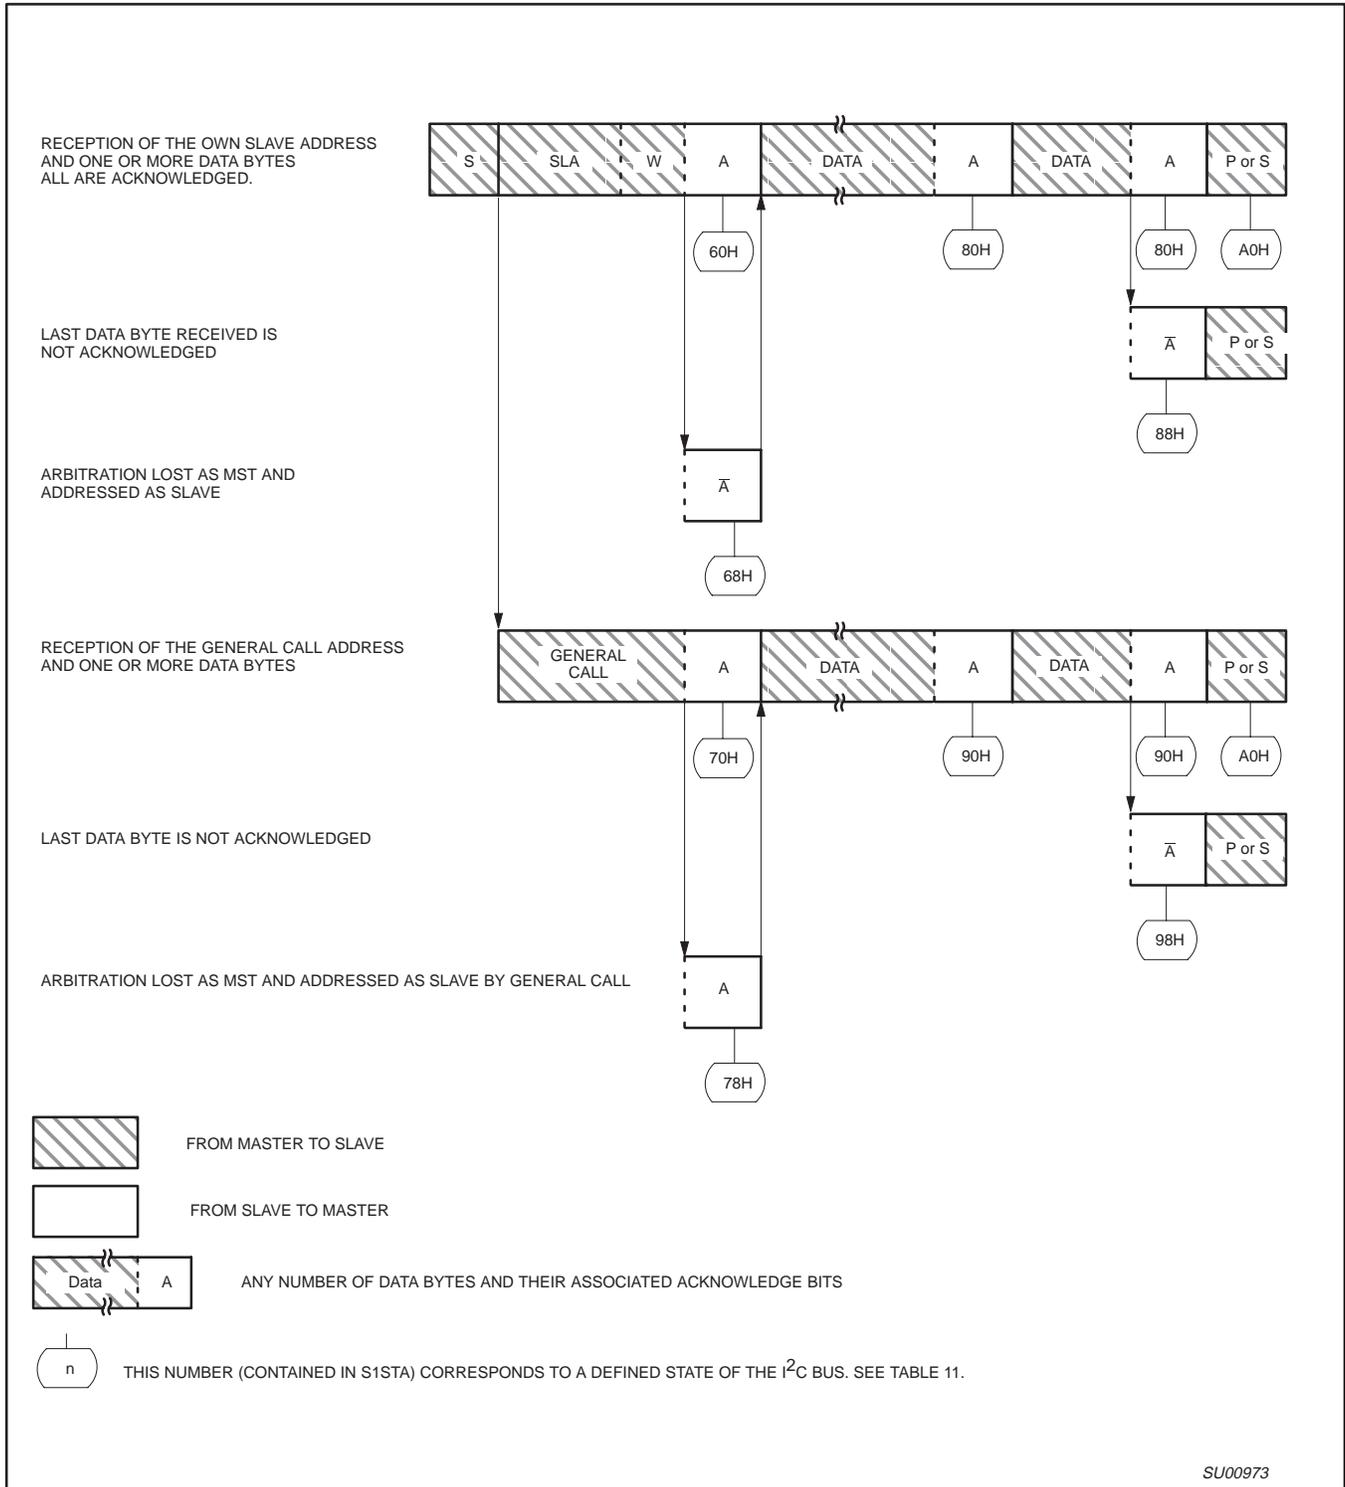

Figure 30. Format and States in the Slave Receiver Mode
**Slave Receiver Mode:** In the slave receiver mode, a number of data bytes are received from a master transmitter (see Figure 30). To initiate the slave receiver mode, S1ADR and S1CON must be loaded as follows: